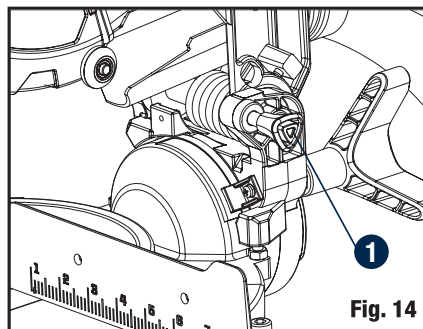

Fig. 14
**UNLOCKING AND LOCKING THE CUTTING HEAD (Fig. 14)**
**To unlock:** Press and lightly hold down the cutting head. Pull out the lock-down pin (1) to release the cutting head. The cutting head should freely move up.